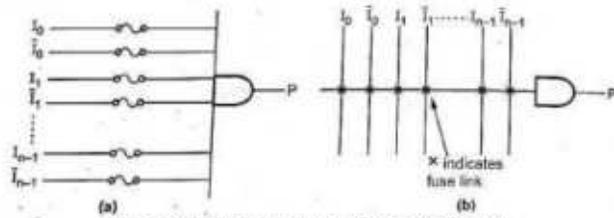

Fig. 7.12.5 Equivalent representation of AND gate
- Fig. 7.12.5 shows the simplified and equivalent representation of input connections for one AND gate.
- The array logic symbol shown in Fig. 7.12.5 (b) uses a single horizontal line connected to the gate input and multiple vertical lines to indicate the individual inputs.